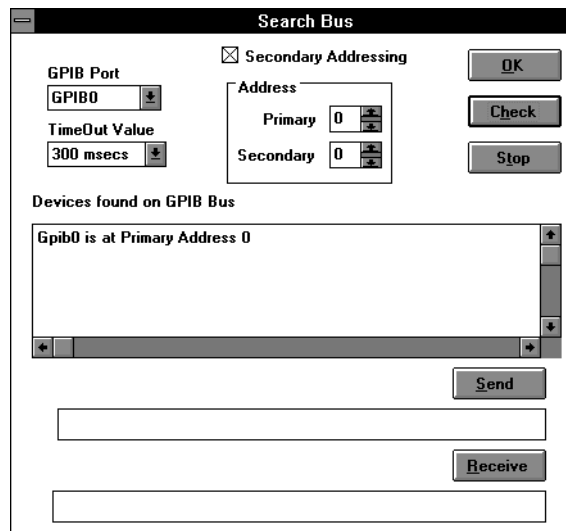

Figure 1-5: Search Bus dialog box
1. In the Setup Communications dialog box, click on the **Search** button to display the Search Bus dialog box (see Figure 1-5).